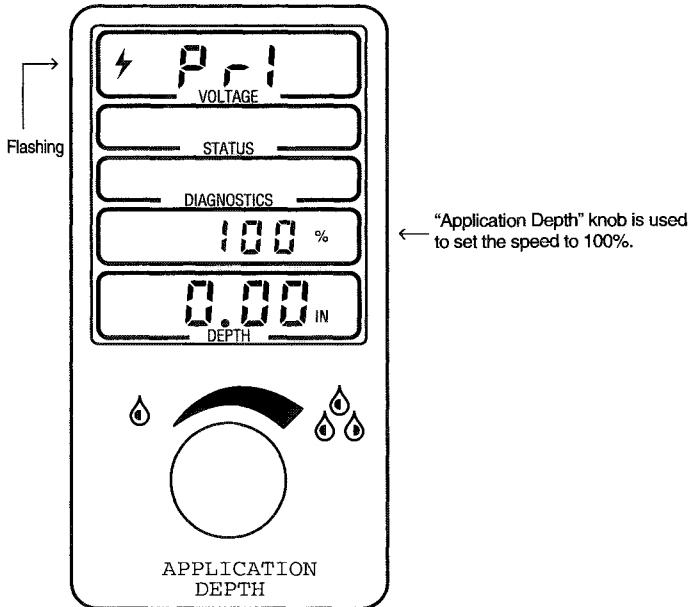

Figure 2.43
3. To set the speed at 100%, turn the “Application Depth” knob clockwise to increase the value to 100% as illustrated in figure 2.43.